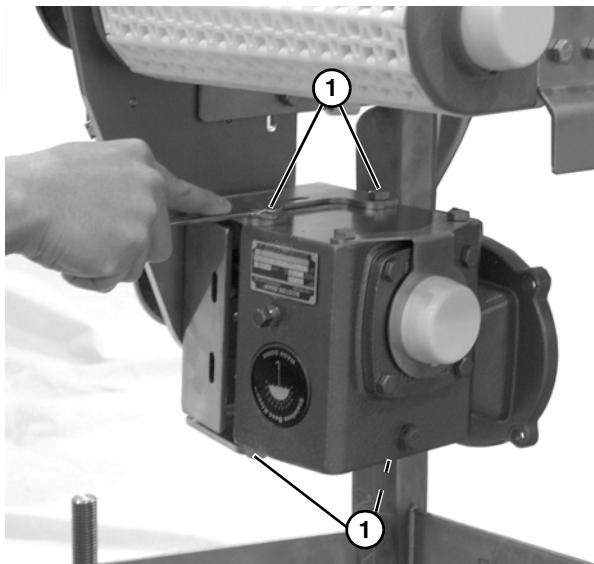

Figure 21
5. Remove four gear reducer mounting bolts (Figure 21, item 1). Remove gear reducer.